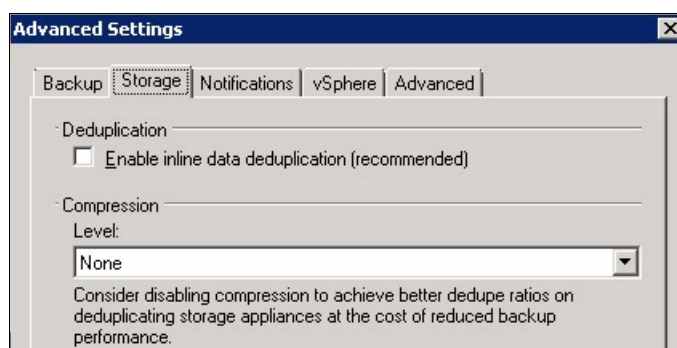

Figure 19-5 Disabling data deduplication and compression
4. Click the **Storage** tab (Figure 19-5) and make the following changes: